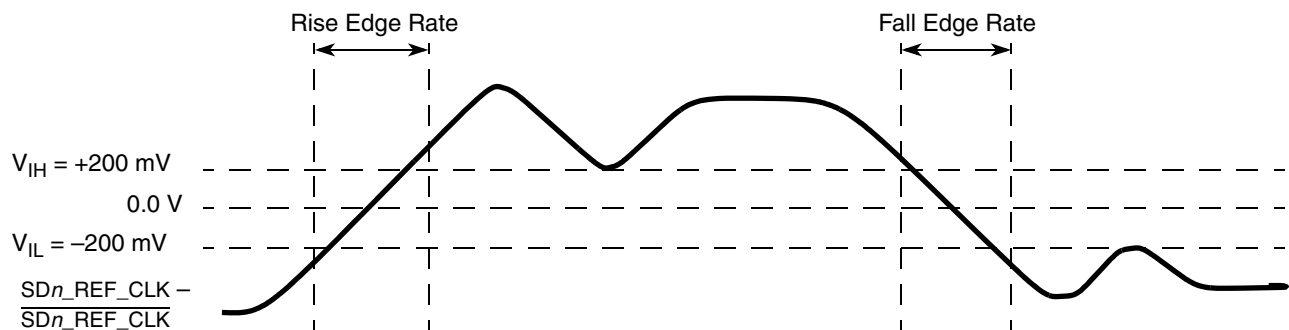

Figure 66. Differential Measurement Points for Rise and Fall Time
3. Measured from -200 mV to +200 mV on the differential waveform (derived from $\overline{SDn_REF_CLK}$ minus SDn_REF_CLK). The signal must be monotonic through the measurement region for rise and fall time. The 400 mV measurement window is centered on the differential zero crossing. See Figure 66.